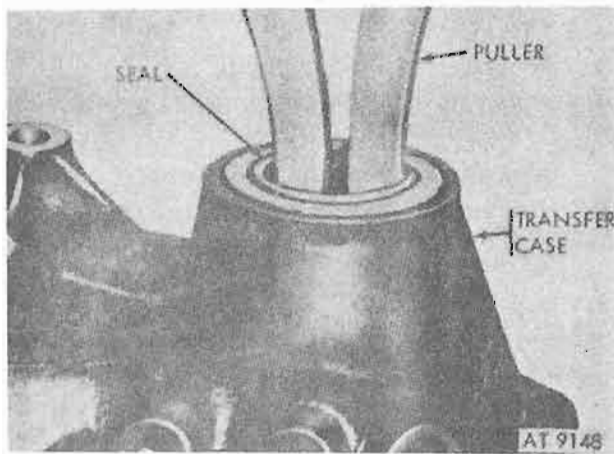

Figure 8-15. Removing parking brake drum seal.
o. Using puller from puller kit (5120-313-9496) remove parking brake-drum seal from transfer case (fig. 8-15).